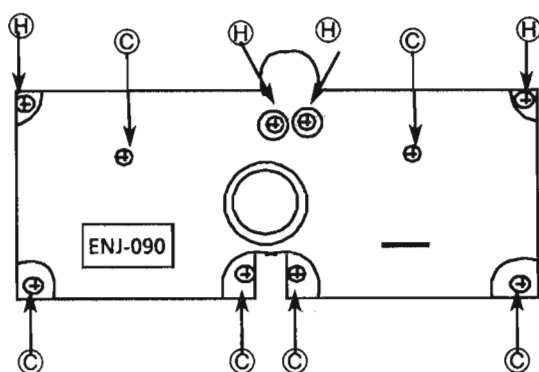

Fig. 3-1 Front panel Rear view
3. Remove the 4screws (H) and 4screws (C).
5. Remove the 2screws (C) holding the cassette amp PCB.
- ( See fig. 3-1 )